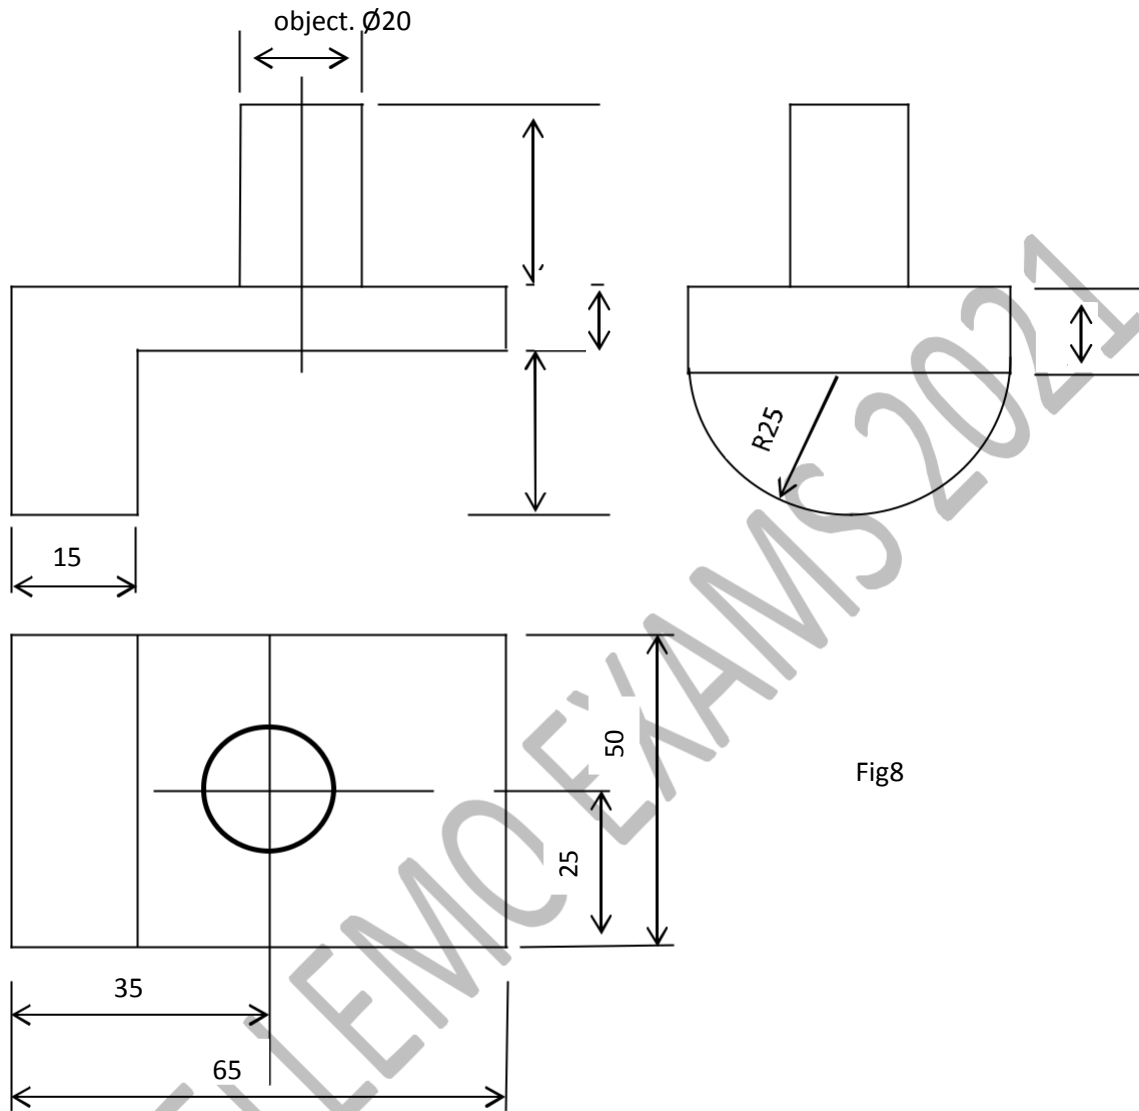

Fig8
14. Figure 8 shown below is a first angle projection of an object. Draw the isometric view of the object.